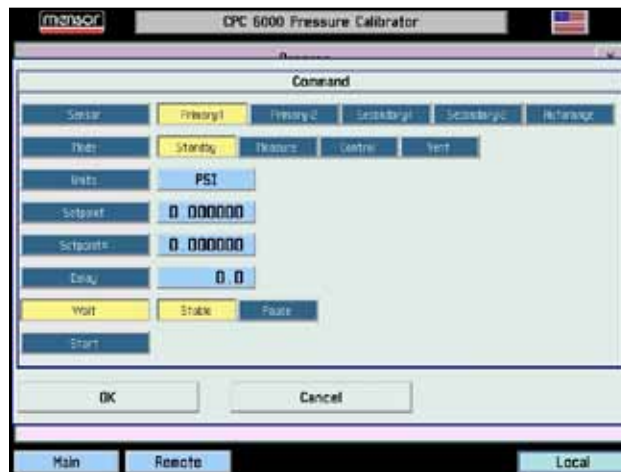

Figure 6.4.1C - Program Line Edit Screen
**[Change] key:** displays the program line edit screen as shown in Figure 6.4.1C . Its functionality is described in the following text.
The Program Line Edit Screen (Figure 6.4.1C) sets the function of each program line. Each program line performs the function selected from the ones displayed in the left-most column.